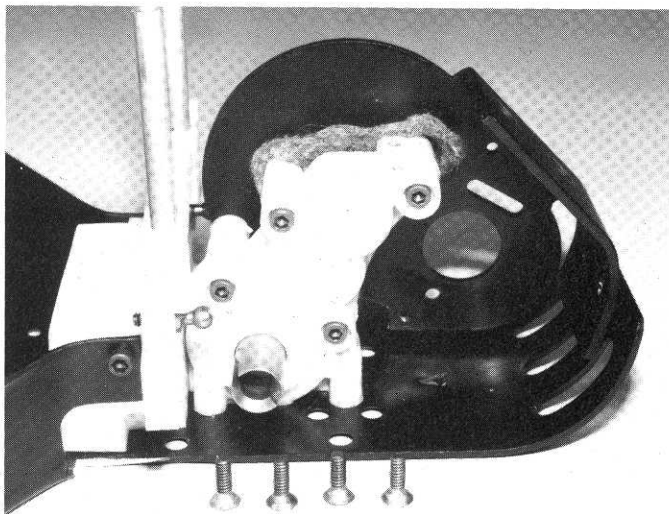

Fig. 75
□ **Fig. 75** Take the transmission housing and install it with four 4-40 x 3/8 flathead socket screws. Do not tighten the screws all the way yet. Be sure the motor mount plate is INSIDE of the chassis at the back, as shown.